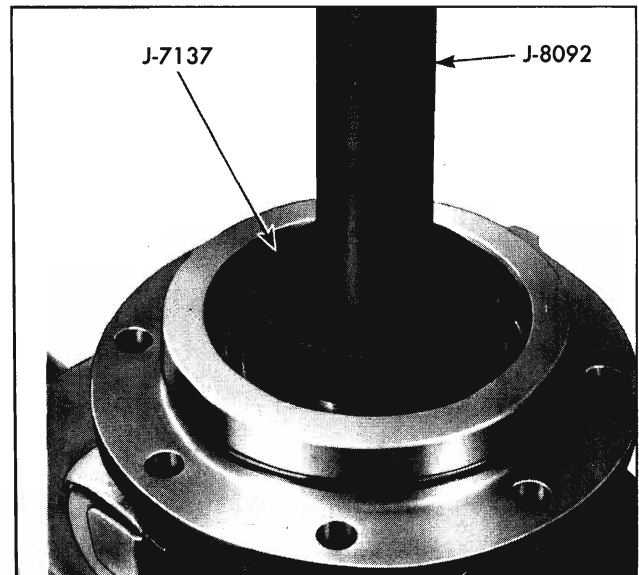

Fig. 4-52 Installing Rear Pinion Oil Seal
4. Install rear pinion bearing outer race using tool J-8898 with J-8092 handle (Fig. 4-52).